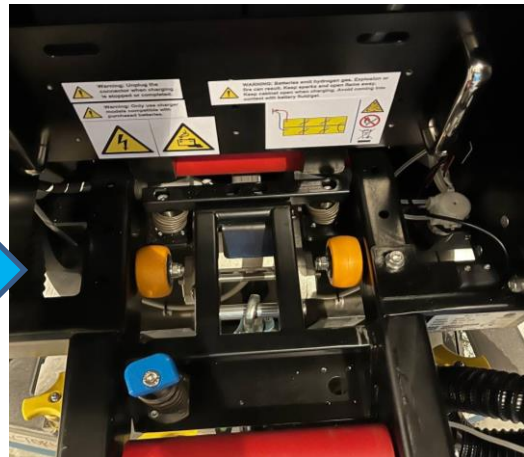

Fig. 3
3. Push trolley forward till a 'click is heard' ensuring the trolley is locked to the REX chassis (Fig 3).